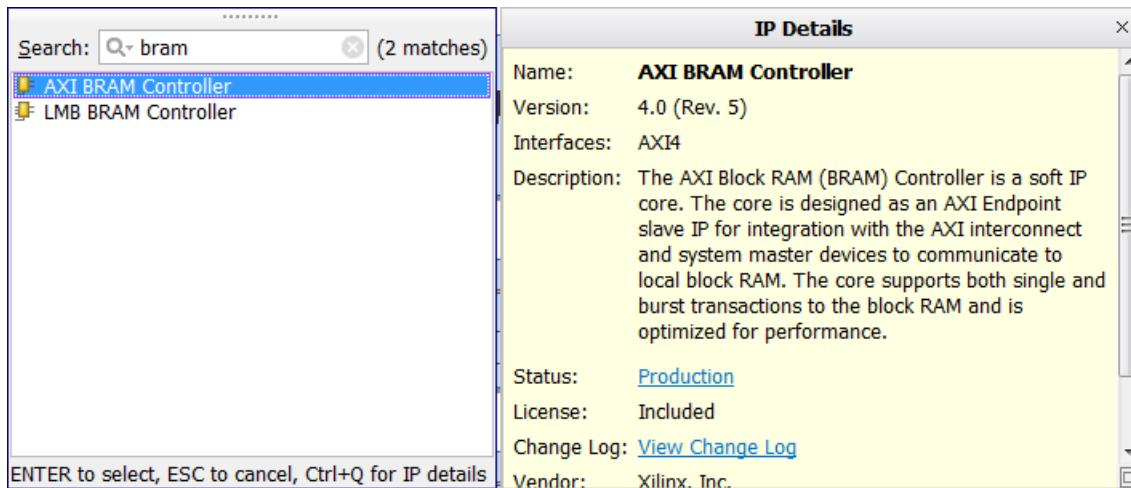

Figure 107: Add BRAM Controller
1. Add the AXI BRAM Controller shown in Figure 107 by right-clicking on the IPI canvas and selecting **Add IP**.